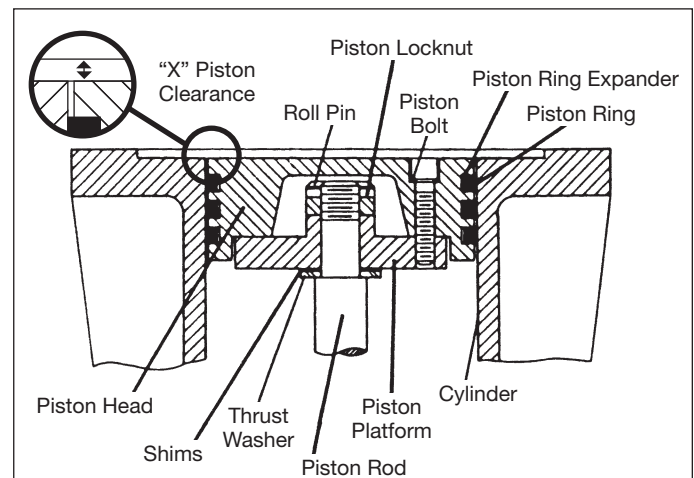

Figure 4.4A: 1st Stage Piston for Model 351 and the 1st and 2nd Stage Pistons for Model 391.
4. Now measure dimension “X”, shown in figure 4.4A. If